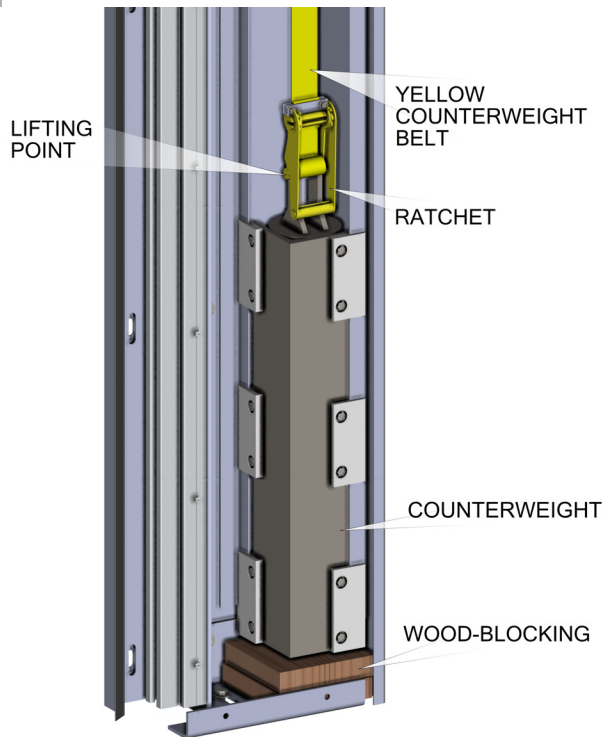
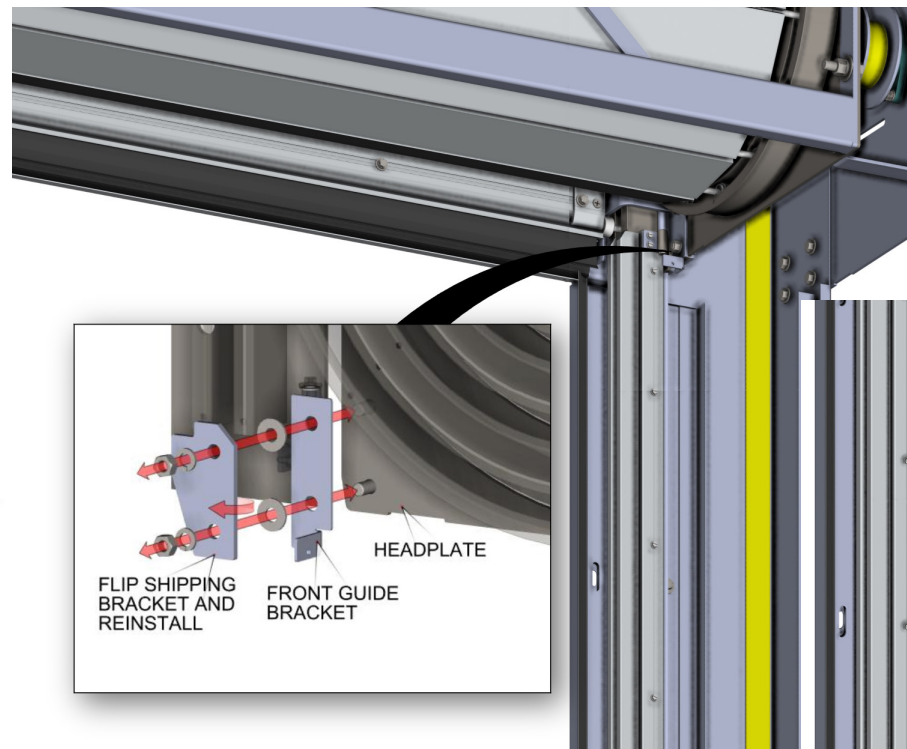
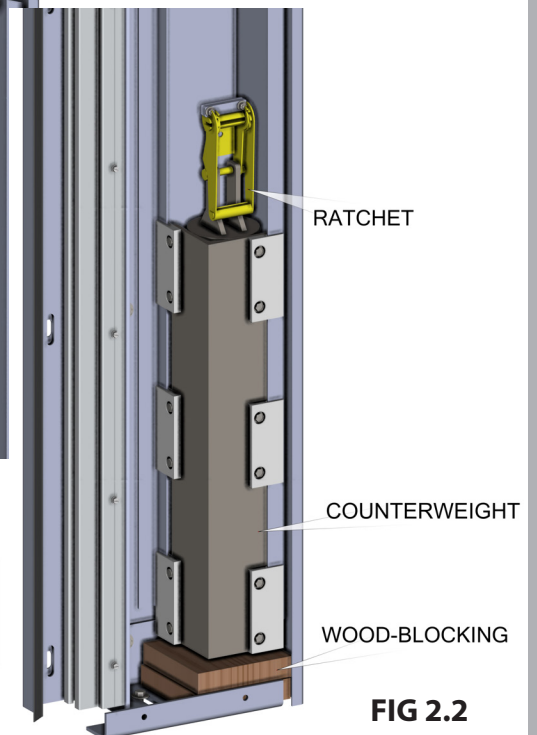

FIG 2.0
FIG 2.1
FIG 2.2
2. Place wood blocking under the counterweights and position the door at the full open position, as shown in **FIG 2.0**.
Remove the bolts that fasten the shipping bracket to the headplate. Flip the shipping bracket and reinstall the shipping bracket to the headplate, as shown in **FIG 2.1**. Loosen and remove the yellow counterbalance belt from the ratchet, as shown in **FIG 2.2**. Remove hardware from counterweight and set aside. Remove counterweight from guide, as shown in **FIG 2.3**.
3. Refer to your door installation instructions and re-install the counterweights. Using the ratchets, tighten both yellow counterbalance belts. Be sure they are tight and properly aligned. Remove the bolts that fasten the shipping bracket to the headplate. Flip the shipping bracket and reinstall the shipping bracket to the headplate, as shown in **FIG 2.1**. Position the door at the closed position and remove the wood blocking under the counterweights, as shown in **FIG 2.0**.